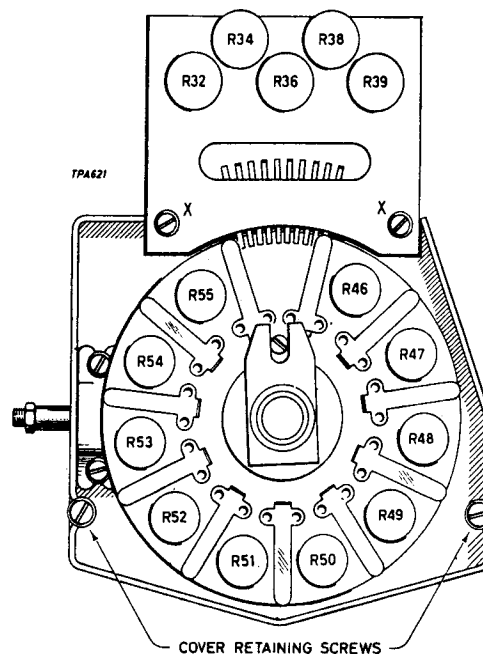

Fig. 4.5 Part of balance switch assembly
- (1) Remove the cover plate round the switch assembly (see Fig. 4.5).
- (2) Remove the two 6BA screws (marked 'x' in Fig. 4.5) from the resistor plate, and carefully lift off the plate complete with the stator wipers.
- (b) When refitting the COARSE BALANCE switch assembly, the pointer should indicate zero on the large dial with the switch contacts making as shown in Fig. 4.5.